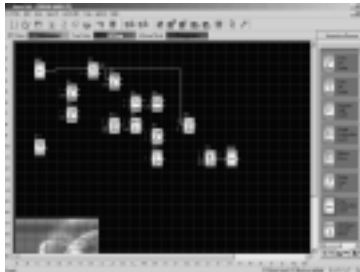
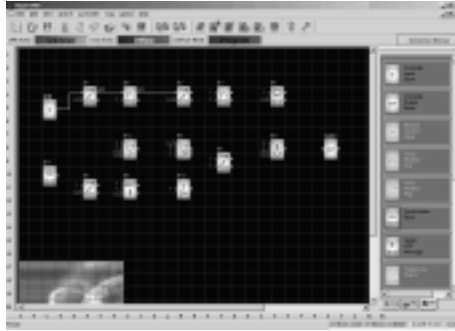

Fig 4.9 Set up Module Link
Fig. 4.10 Modify Module Tab
4. Modify the tab of the module: press left button of the mouse above the module, dialog box as Fig. 4.9 appearances, select “Change Block Number”, dialog box as Fig. 4.10 will flip out, it’s time to modify the tab of the module.